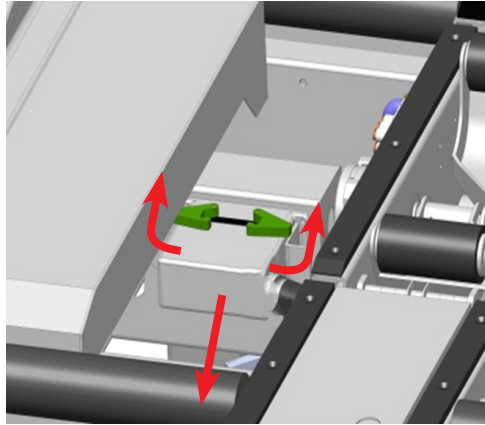

Figure 55: Power Disconnect
2. Disconnect electrical connection of tape head by unHINGING and removing plug, (refer to Figure 55).